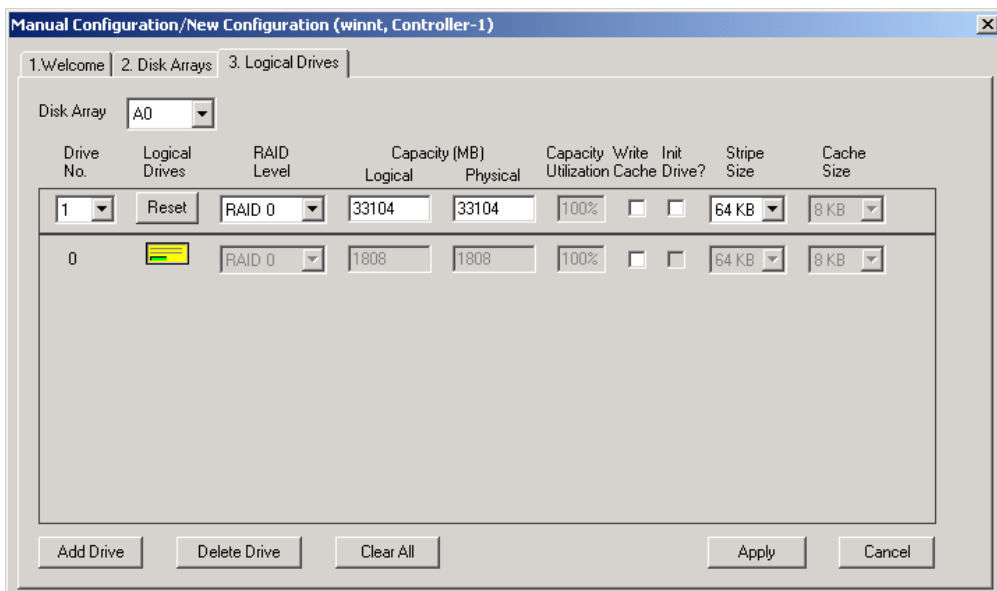

Figure 4-23. Manual Configuration – Logical Drives
- Once you have assembled the disk array groups, click the Logical Drives tab to continue on to logical drive setup (Figure 4-23).